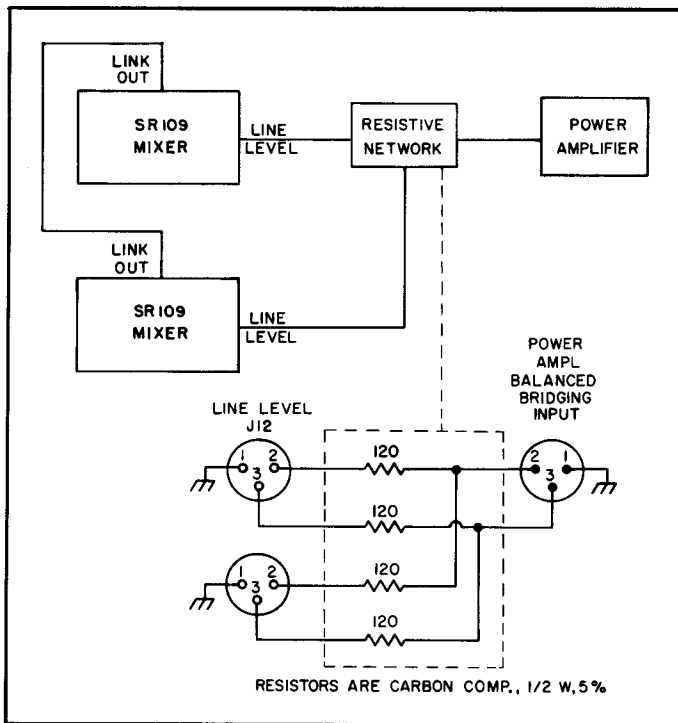

FIGURE 13. REDUNDANT MIXERS
Connect a cable between the LINK OUTPUT Jacks (21) of each Mixer. Construct a resistor network as shown in Figure 13, Page 13, and insert it between the LINE LEVEL Output Jacks (23) on both Mixers and the balanced bridging input of the power amplifier. The resistor network matches the output of the two Mixers to the balanced line to the power amplifier.